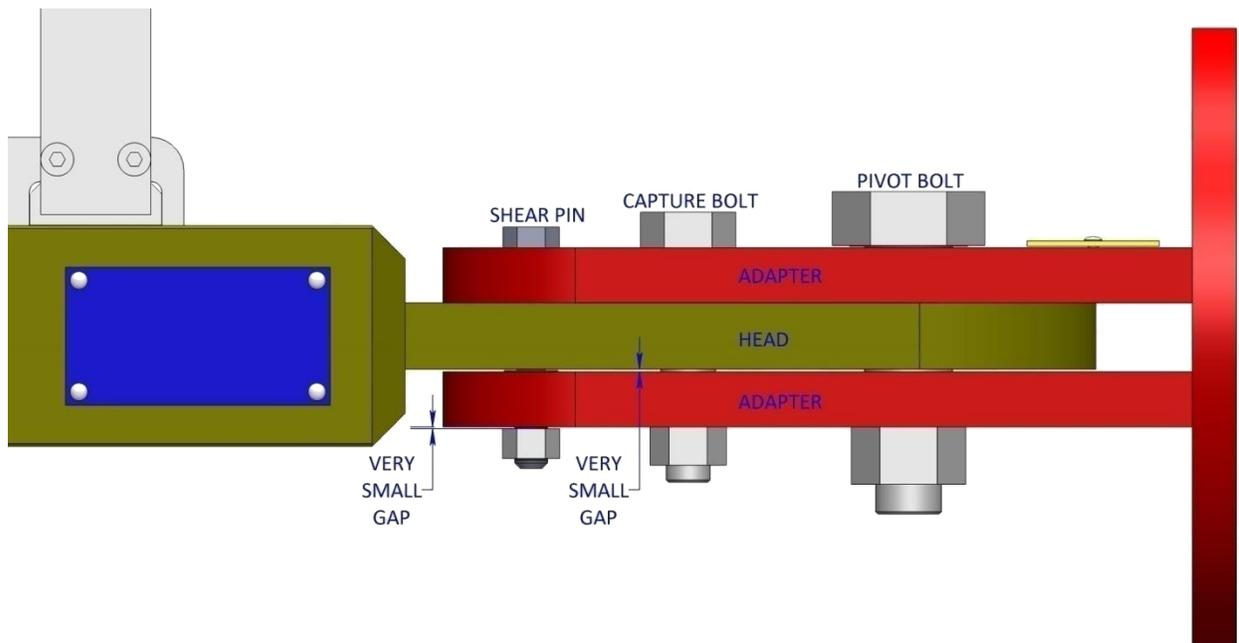

Figure 1. Inspection of shear pin and head/adapter clearance.
4.1.1. Shear pin should spin freely by hand and the nut should not be tight to the head. A very small gap (0.005"-0.010" feeler gage) between the nut and the head is desirable. See *Figure 1* below.
- 4.3.** Check clearance between head and adapter. With the shear pin removed, the head must be able to slide and pivot within the adapter plates by hand, but sometimes with some difficulty. A very small gap should exist between the head and the adapter (see Figure 1 above). Both the Capture and Pivot bolts are shoulder bolts and the nuts should be able to be tightened up to the shoulder. However, if the adapter is excessively clamping the head slightly loosen Capture and Pivot bolt nuts by 1/8 of a turn to free up the head.